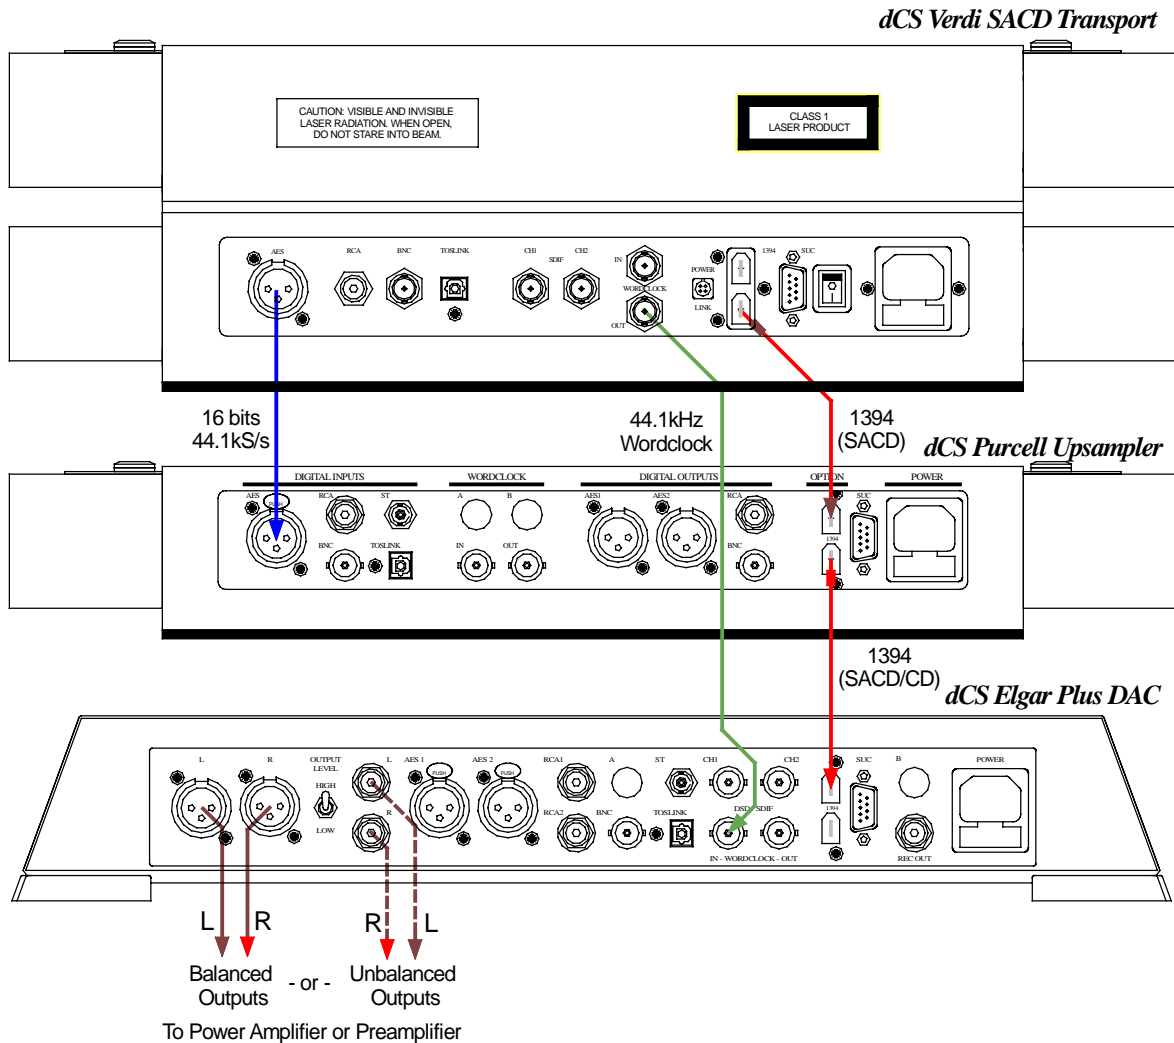
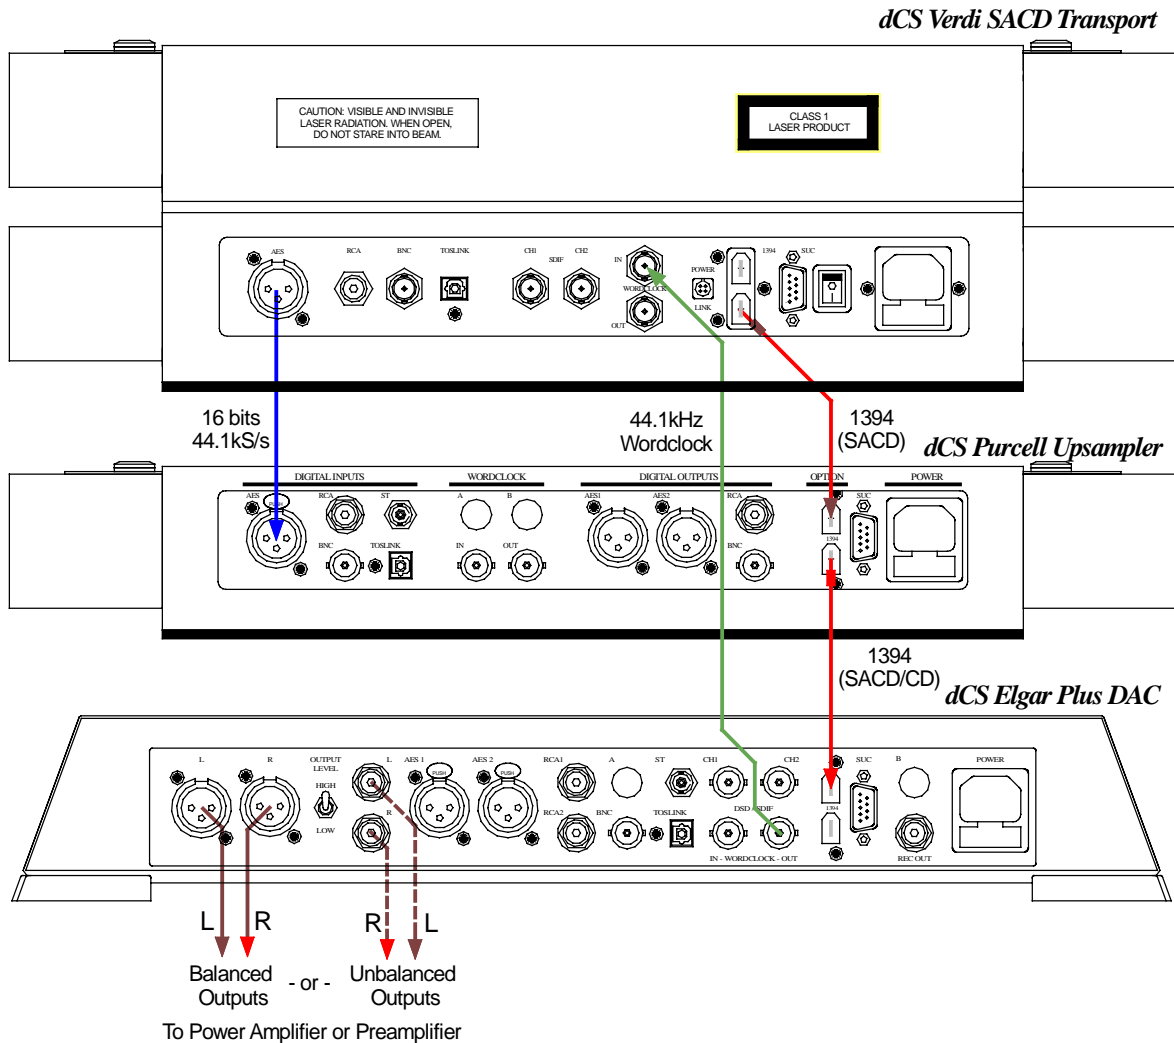

Figure 3 – Upsampling the CD data to DSD
Figure 4 – Upsampling the CD data to DSD, DAC in Master mode
**do this:** Connect up as shown in **Figure 3**. The first time you use this arrangement, open the *Purcell* and *Elgar Plus* menus and run the **Factory** and **Rst Sync** routines.
**do this:** Connect up as shown in **Figure 4**. Note that the **Wordclock connections are different to those in Figure 3**. The first time you use this arrangement, open the *Purcell* and *Elgar Plus* menus and run the **Factory** and **Rst Sync** routines.